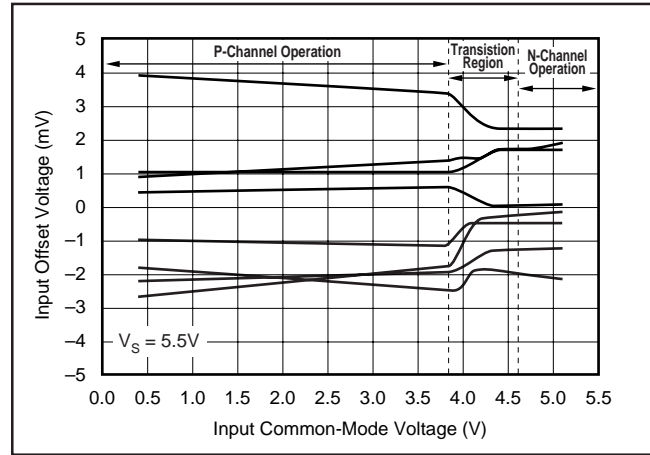
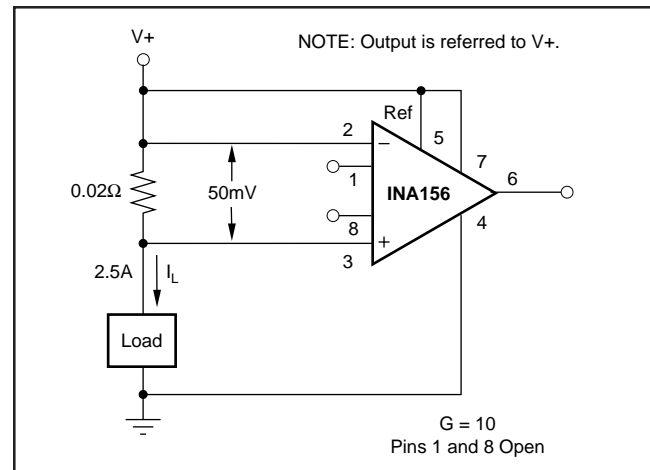

FIGURE 6. Input Offset Voltage Changes with Common-Mode Voltage.
FIGURE 7. Single-Supply, High-Side Current Monitor.
NOTES: (1) For further information, refer to typical performance curves on common-mode input range. (2) Operation beyond $(V+) - 1.8V$ (max) results in reduced common-mode rejection. See discussion and Figure 6 in the text of this data sheet. (3) Does not include error and TCR of additional optional gain-setting resistor in series with R_G , if used.
The internal amplifiers have rail-to-rail input stages, achieved by using complementary n-channel and p-channel input pairs. The common-mode input voltage determines whether the p-channel or the n-channel input stage is operating. The transition between the input stages is gradual and occurs between $(V+) - 1.8V$ to $(V+) - 1V$. Due to these characteristics, operating the INA156 with input voltages within the transition region of $(V+) - 1.8V$ to $(V+) - 0.8V$ results in a shift in input offset voltage, and reduced common-mode and power supply rejection performance. Typical patterns of the offset voltage change throughout the input common-mode range are illustrated in Figure 6. The INA156 can be operated below or above the transition region with excellent results. Figure 7 demonstrates the use of the INA156 in a single-supply, high-side current monitor. In this application, the INA156 is operated above the transition region.